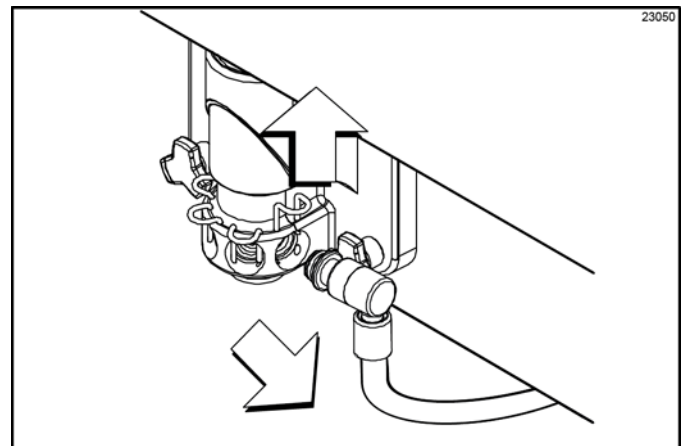

Figure 6-89
4. Disconnect the syrup valve from the freezer door. Raise the syrup valve retainer and pull the valve straight out. (See Figure 6-89.)